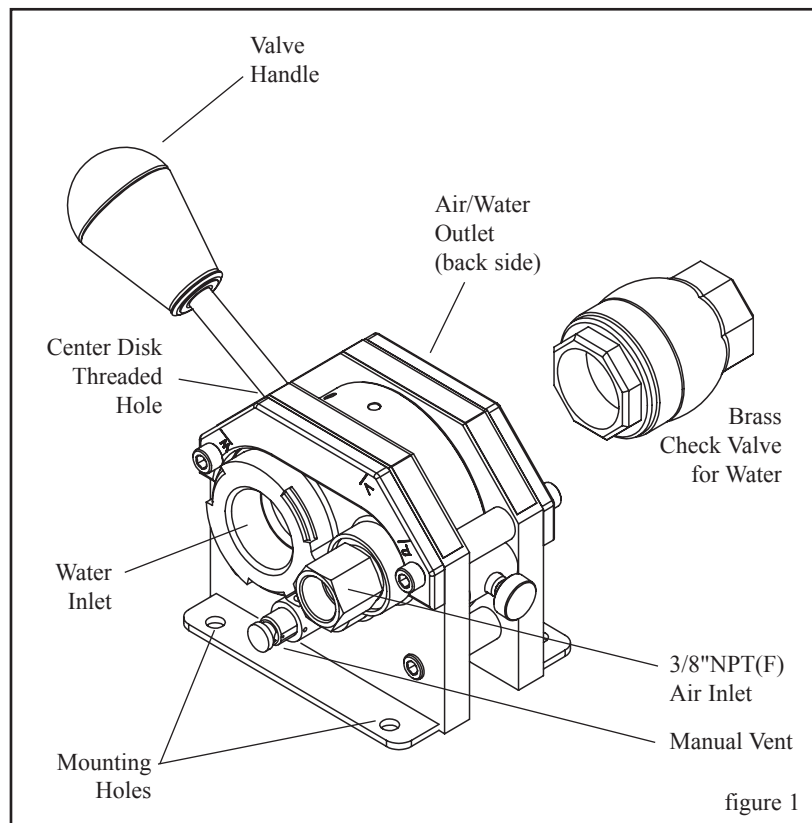

figure 1
1. Apply thread locking compound (Loctite 638 or equivalent) to threaded end of valve handle. Screw valve handle into center disk threaded hole. See figure 1.
3. Thread manual vent into the hole as shown in figure 1. (No additional thread sealant is required. Do not over-tighten.)